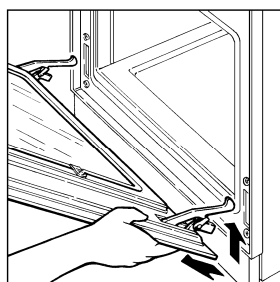

Fig. 11
- lift the door gently and withdraw it (Fig. 11).